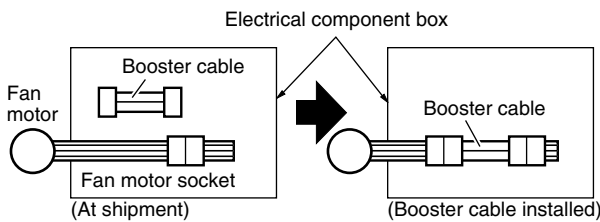

Fig. 3-67
- (1) Remove 4 screws on the electrical component box and remove the cover plate.
- (2) Disconnect the fan motor sockets in the box.
- (3) Take out the booster cable (sockets at both ends) clamped in the box.
- (4) Securely connect the booster cable sockets between the disconnected fan motor sockets in step 2 (Fig. 3-67).